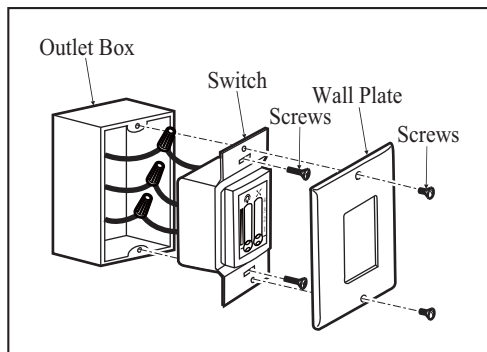

Figure 14
1. (Fig. 14) Carefully tuck the wire connections inside the junction box. Secure the wall transmitter with the two screws provided.